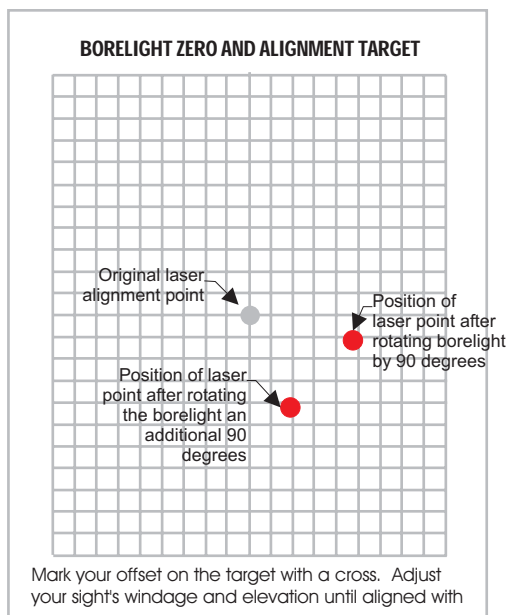

FIGURE 2-5
7. If the laser point moves off of the center point marked on the target, mark the new position of the laser point. See Figure 2-5. **If the laser point does not move from the Center Point, then you may proceed to Section 2-2, Boresighting Procedures. If the laser point traces a circle on the target, then the borelight has not been properly adjusted. See 8. to 11. below**
8. Rotate the borelight again by an additional 90 degrees. At this point the Elevation Adjustment Knob should be facing down. This is 180 degrees from the starting point. See Figure 2-5. Mark the new position of the laser point on the target.
6. Rotate the borelight 90 degrees in a clockwise direction. See Figure 2-5 below.